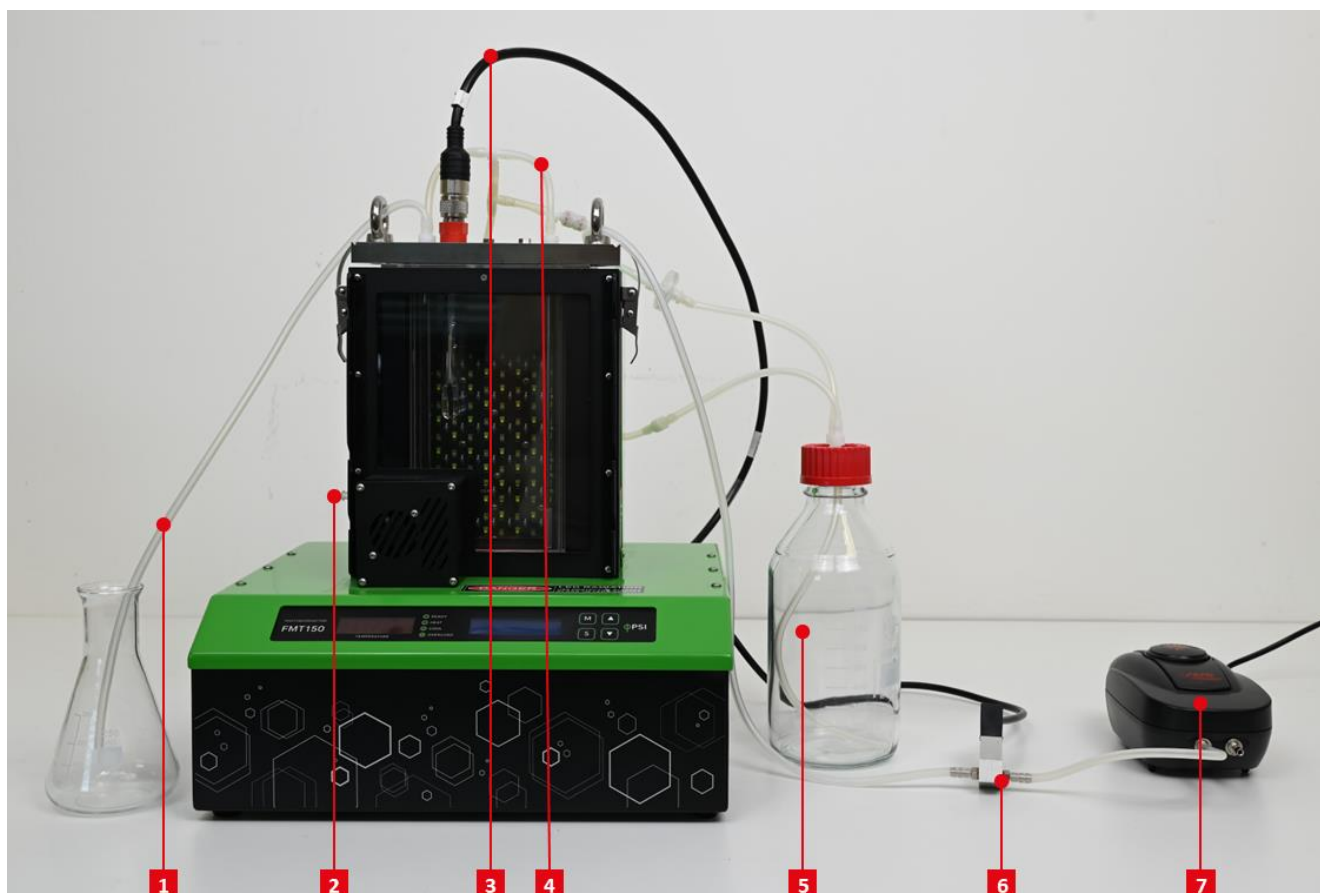

Fig. 17 FMT 150 set-up with air pump supplying the gas.
The gas supply to the photobioreactor consists of four main parts – pressurized gas source, bubble humidifier, the bubble interruption control valve, and gas dispenser tube (Fig. 17). All parts are connected with flexible silicone tubing.
- After autoclaving, connect the bubble humidifier bottle as described in the following steps. Remove the Lock ring plug from the silicone tubing and connect the MTLL Luer Lock with FTLL Luer Lock placed in the main gas dispenser tubing. Prepare silicone tubing of approximately 30 – 35 cm length and connect it with bubble interruption valve as shown in Fig. 17. Connect 20 µm air filter* with the MTLL Luer Lock end of the silicone tubing from the humidifier bottle and via other FTLL Luer Lock connect with the silicone tubing coming from the bubble interruption valve.